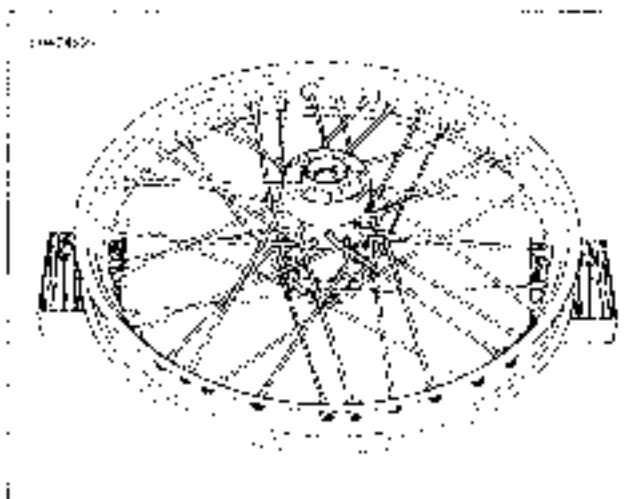

Figure 2-49.
9. See Figure 2-49. Insert any upper row spoke into hub and angle spoke counterclockwise into appropriate rim hole. Install remaining upper row spokes.